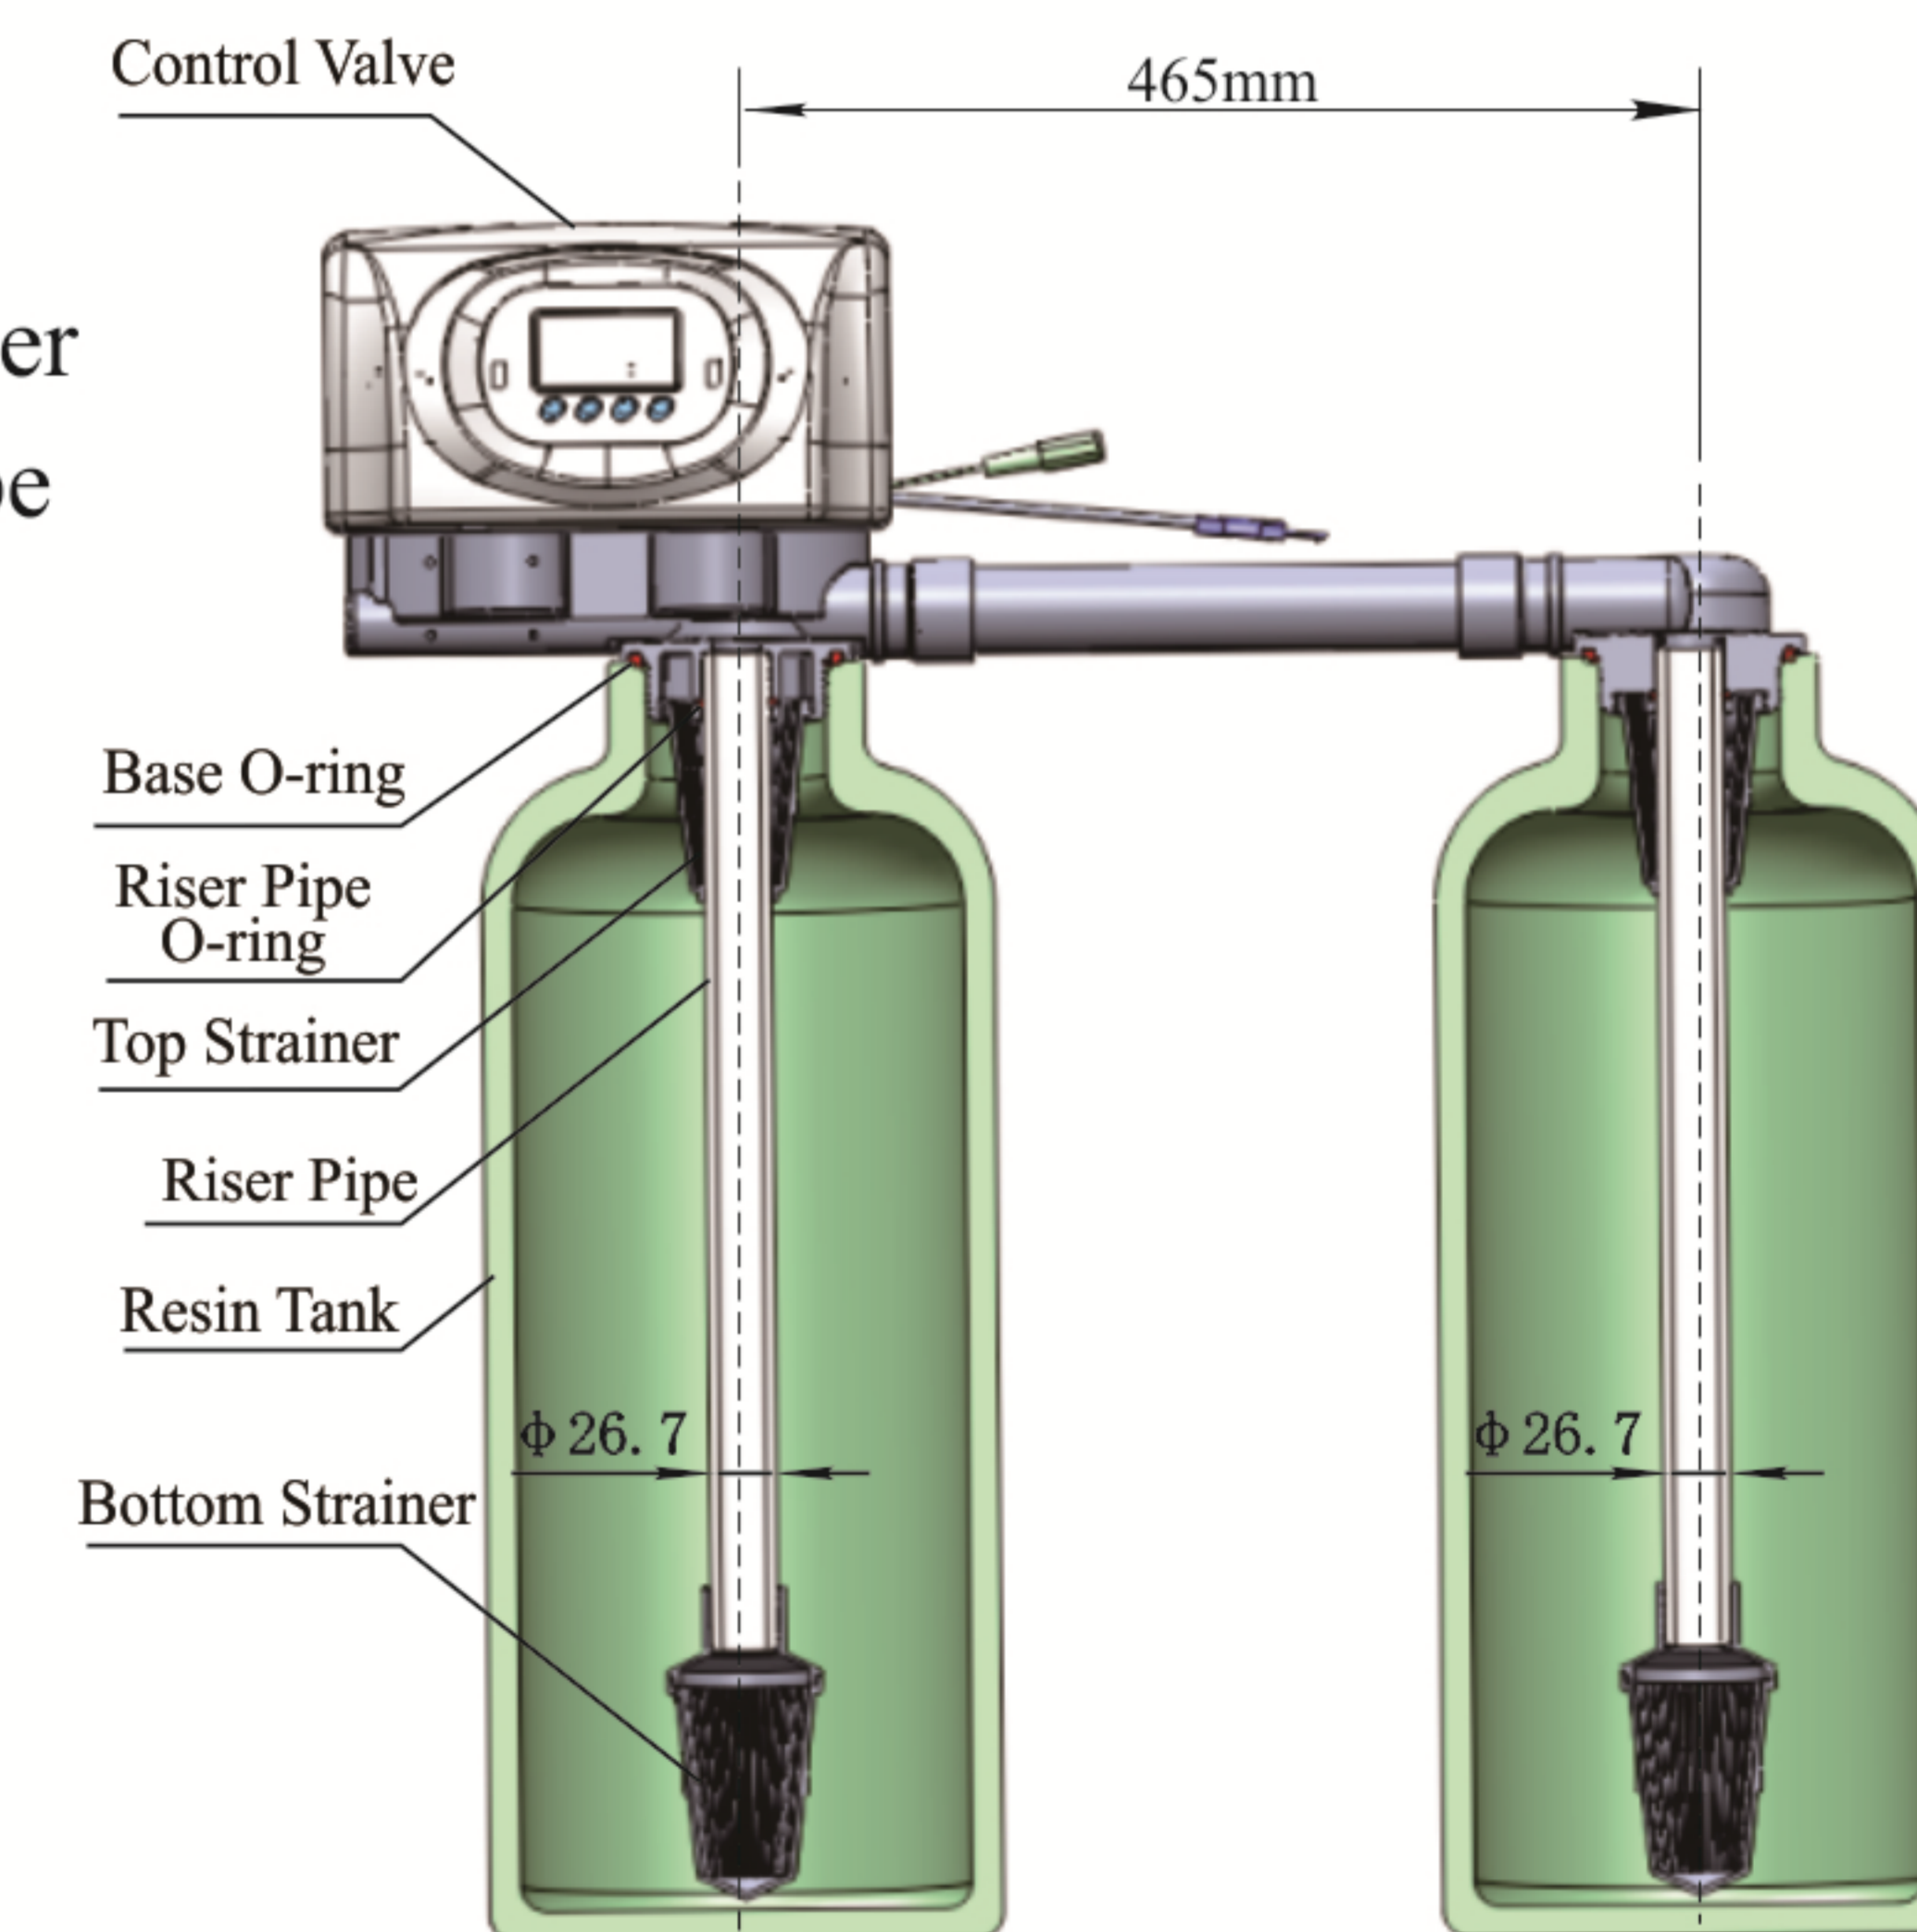

Figure 1-1
- ① The softener should be located close to drain.
- ② Ensure the unit is installed in enough space for operating and maintenance.
- ③ Brine tank need to be close to softener.
- ④ The unit should be kept away from the heater, and not be exposed outdoor. Sunshine or rain will cause the system damage.
- ⑤ Please avoid to install the system in one acid/alkaline, magnetic or strong vibration circumstance, because above factors will cause the system disorder.
- ⑥ Do not install the filter or softener, drain pipeline in circumstance which temperature may drop below 5°C, or above 45°C.
- ⑦ Install the system in the place where with the minimum loss in case of water leaking.
- ① Install control valve
- a. As the Figure 1-1 shows, select the riser pipe with 26.7mm OD, glue the riser pipe to the bottom strainer and put it into the mineral tank, cut off the exceeding tube out of tank top opening.